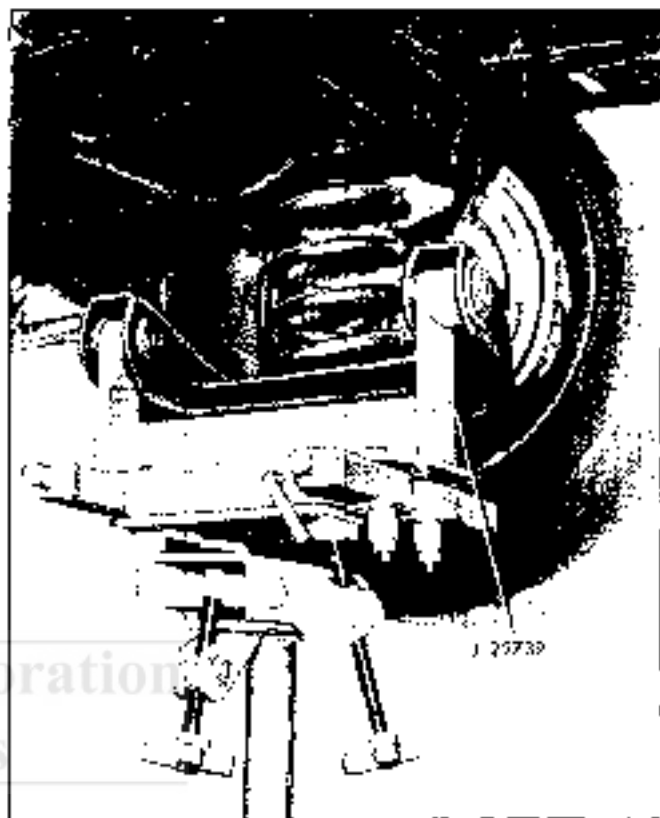

Fig. 3-11 Firebird Coil Spring Removal Tool
- Using a hydraulic transmission jack, bolt spring removal tool J 22739 to the jack and position under the two inner control arm bushings (Fig. 3-11).